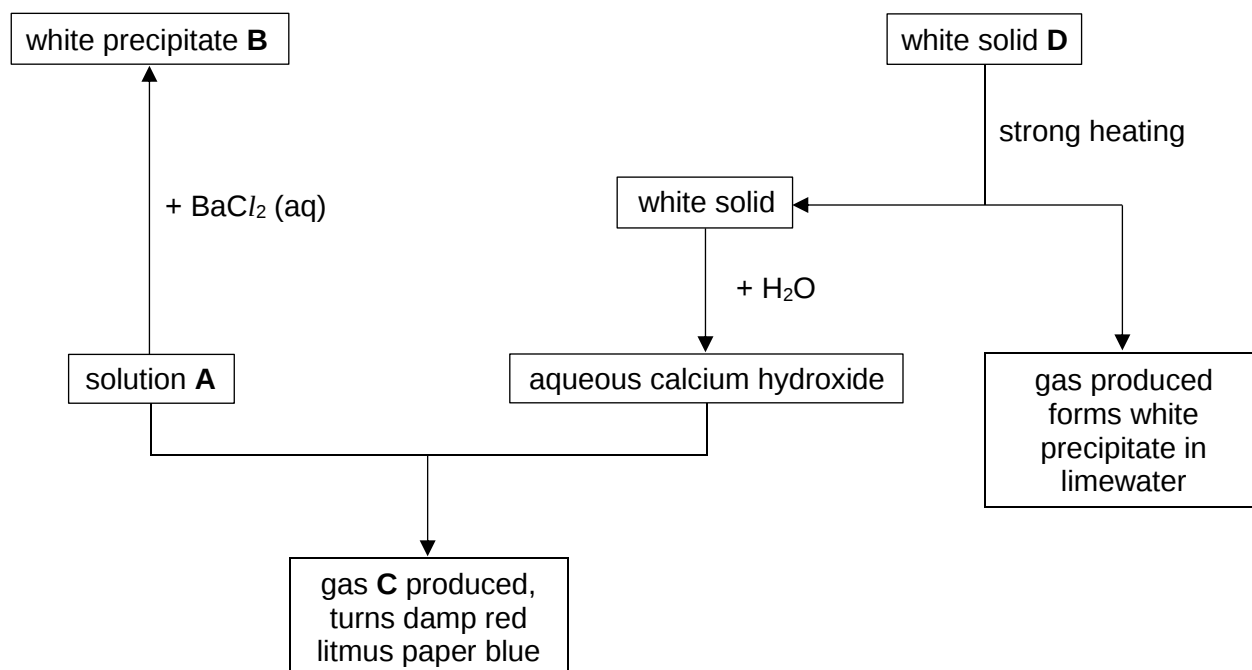

Fig. 3.1
- 3 Fig. 3.1 shows some reactions involving substances **A**, **B**, **C** and **D**.